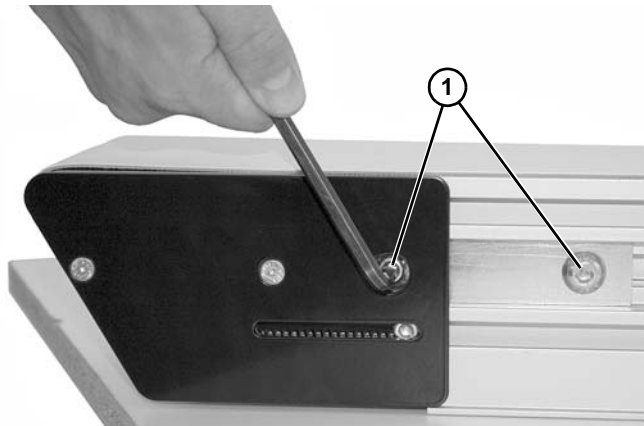

**Figure 88**
4. Remove shoulder screws (**Figure 88, item 1**) to remove backing plate (**Figure 88, item 2**).
5. Slide drive pulley assembly out of tail assembly (**Figure 88, item 3**).